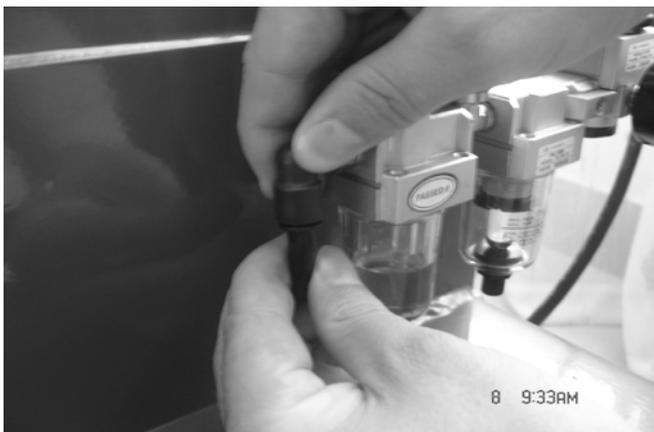

Fig4-11
4.2.13 connect the air hose, detach the union on the  $\phi 8$  PU hose on the side of body. This union is for the purpose to keep the air hose from falling into the body. Insert the union in front the air regulator see Fig4-10/Fig4-11.
Embed the inflation gun or inflation gauge box into the groove of the open nut on the air regulator (Fig4-11) . Tighten the open nut and connect the air route.